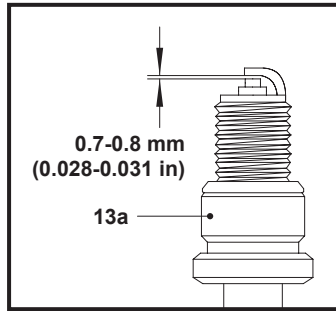

Fig. 22
- Check the spark plug gap. It should be 0.7-0.8 mm (Fig. 22).
- When replacing the spark plug (13a), first screw it in hand tight and then lightly tighten it with the spark plug wrench (29).